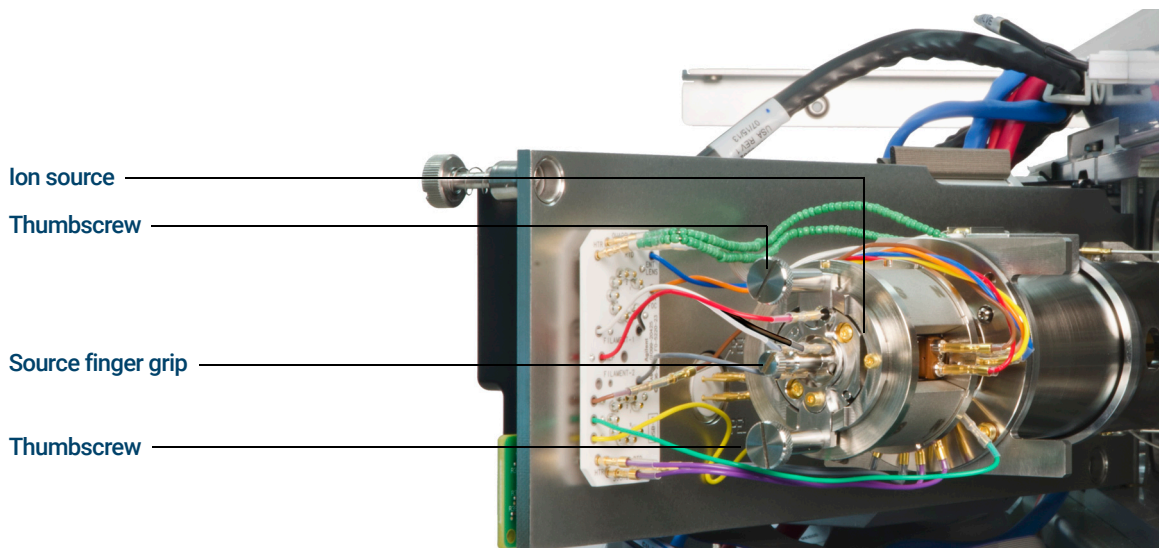

Figure 46. The EI HES before removal
- 3 Remove the two large thumbscrews that hold the ion source in place. (See Figure 46 on page 161.)
The source contacts have spring loaded pins so some force must be applied to pull the source out. (See Figure 46.)